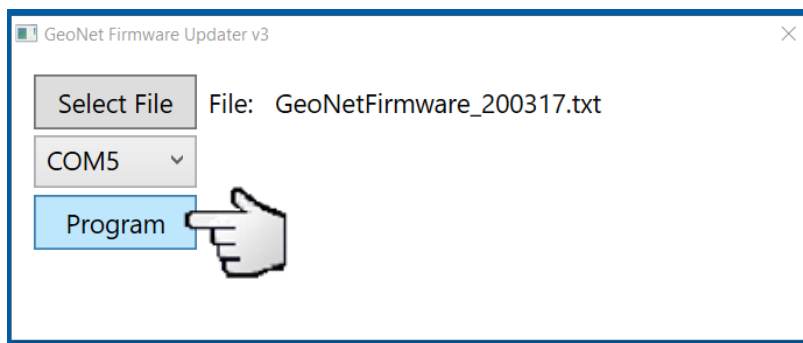

Figure 10- Program
11) Click “Program” (Figure 10).